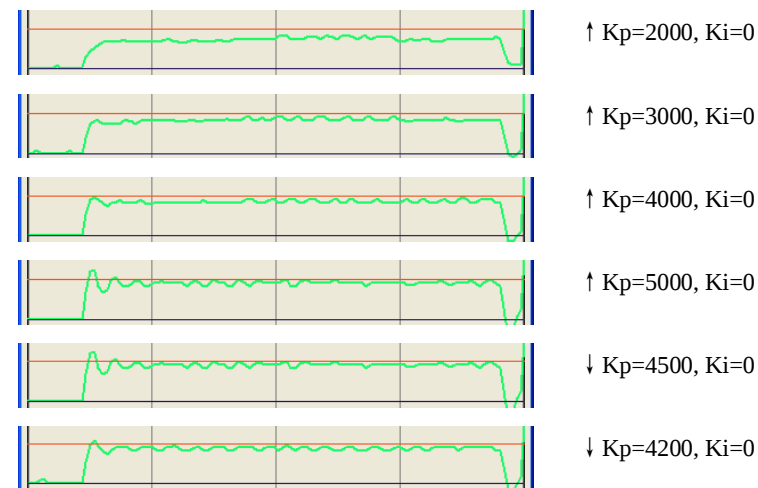

Figure 6-23: Current loop tuning with Ki=0 and increasing Kp
Step 3: Give **Kp** 2000, 3000, 4000, 5000 and click **Start**, respectively. The green curve is getting more and more close to the red curve. See figure 6-23. Over-shoot begins when we increase Kp to 5000. It indicates that you need to stop increasing